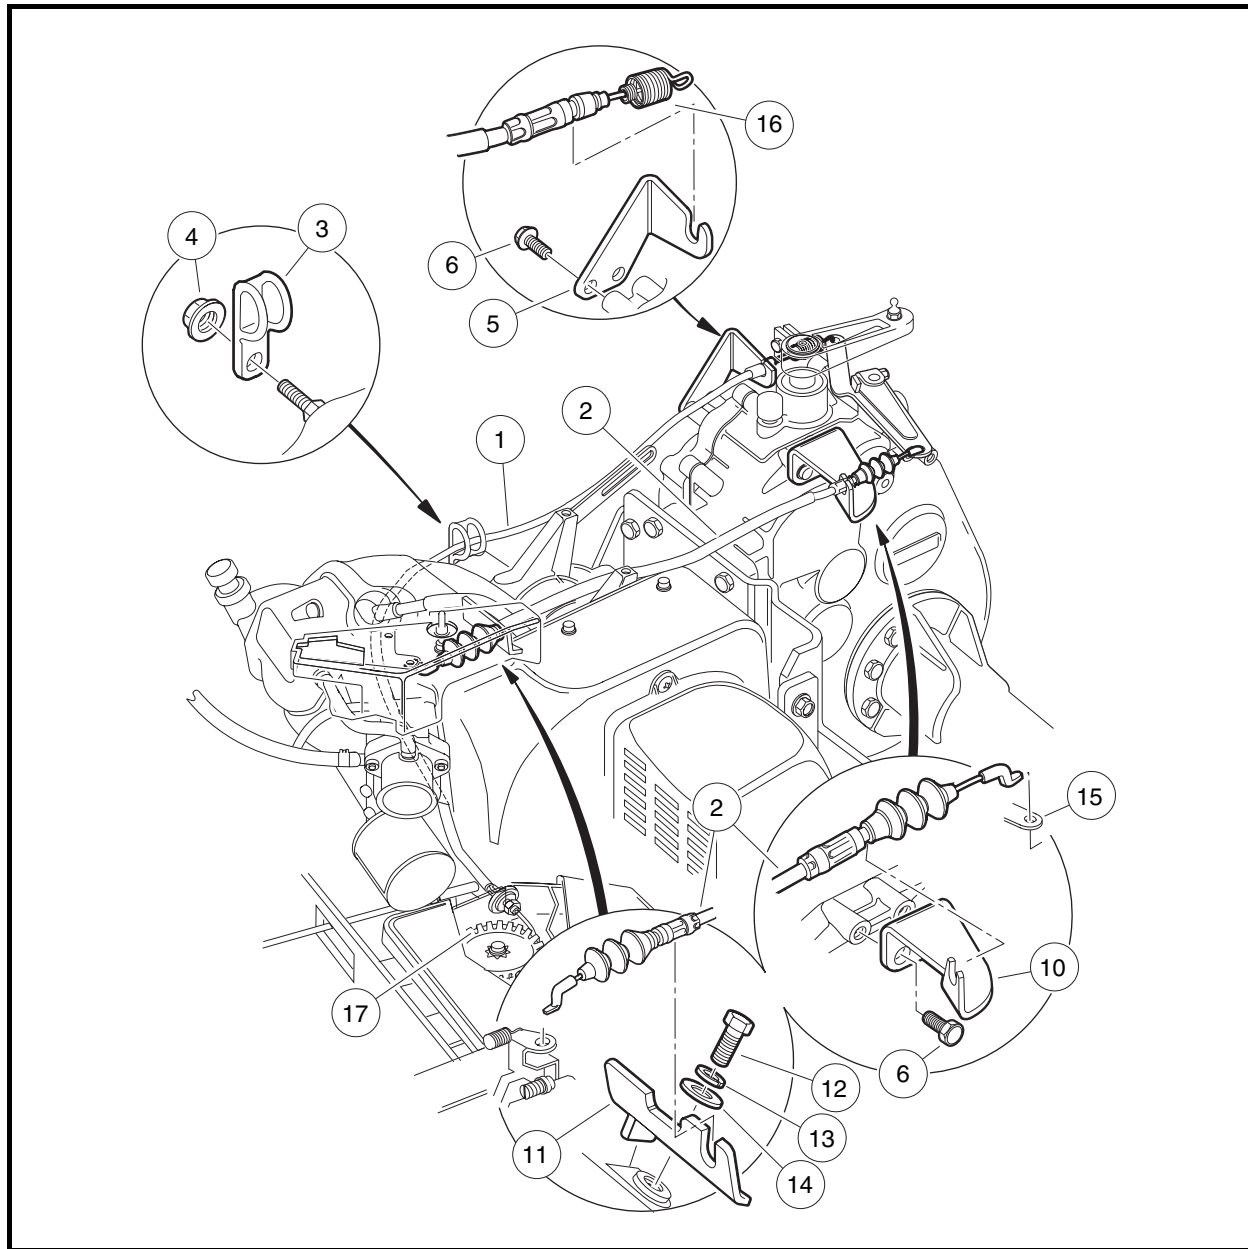

Figure 16-9 Governor and Accelerator Cables
5. Disconnect the governor cable (2) at the carburetor throttle.
6. Disconnect the governor cable (2) from the governor lever arm (15) (**Figure 16-9, Page 16-10**).
7. Remove the governor cable (2) from the governor cable engine bracket (11), and governor cable support bracket (10) (**Figure 16-9, Page 16-10**). Remove the cable (2) from the vehicle.
1. Install the cable onto the governor cable support bracket (10) and the engine bracket (11) (**Figure 16-9, Page 16-10**).
4. Connect the governor cable to the governor lever arm (15) (**Figure 16-9, Page 16-10**).
3. Disconnect cable (1) from cam (17) in the electrical box (**Figure 16-9, Page 16-10**).
4. Disconnect the spring (16) from the engine governor arm.
5. Remove the accelerator cable from the accelerator cable bracket (5). Remove the cable assembly from the vehicle.
1. Connect the cable to the cam (17) in the electrical box (**Figure 16-9, Page 16-10**).
3. Connect the spring (16) to the engine governor arm (**Figure 16-9, Page 16-10**).
4. Install cable in accelerator cable bracket (5) (**Figure 16-9, Page 16-10**).